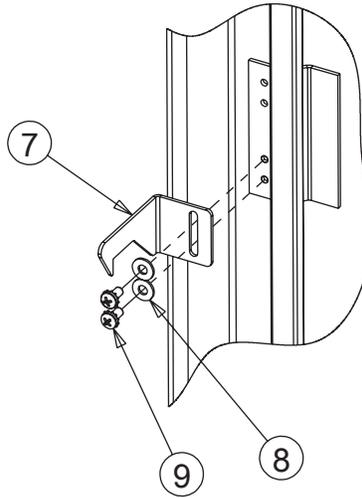

Figure 5
1. Referring to Figure 5, install the control enclosure adjustable door hook (Item 7) onto the door of the control enclosure using two 10-32 screws (Item 8) and #10 flat washers (Item 9). Initially position the hook approximately two inches from the top of the door bracket.